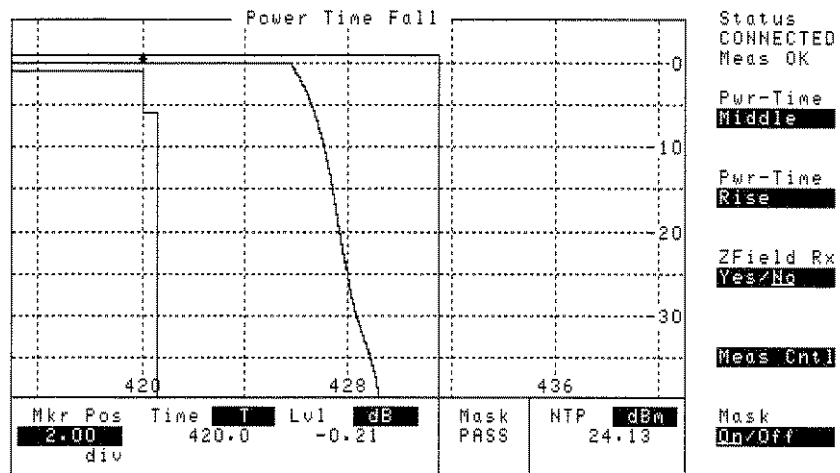

Figure 2-8. Power Time Fall Screen
- Or Select **Pwr-Time Rise** softkey from the screen shown in Figure 2-8.